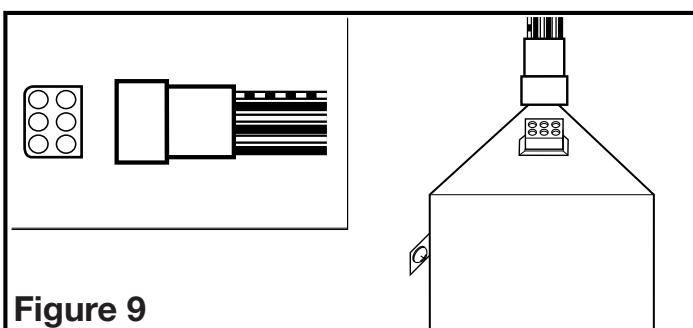

Figure 9
- Plug the fan's quick connect motor cord into the receptacle. This cord will only fit one way into the receptacle (Figure 9).